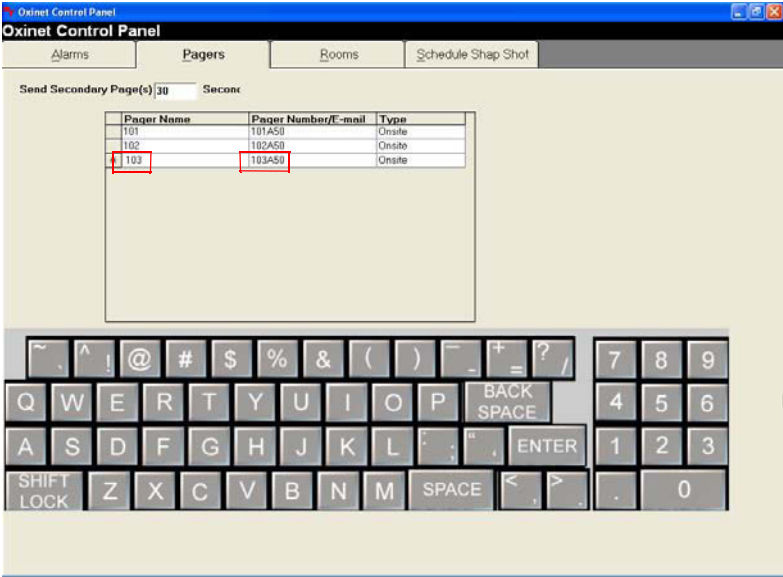

Figure 27: Pagers Menu — Entering Pager Name
- 2 Press (or click) the cell in the *Pager Name* column and type the pager number, for example **103** (Figure 27).
3A Press (or click) the cell in the *Pager Number/E-mail* column and type the pager name and number, for example **103A50** (Figure 27) — the pager number is indicated on the back of the pager (in this example the pager number is 103).